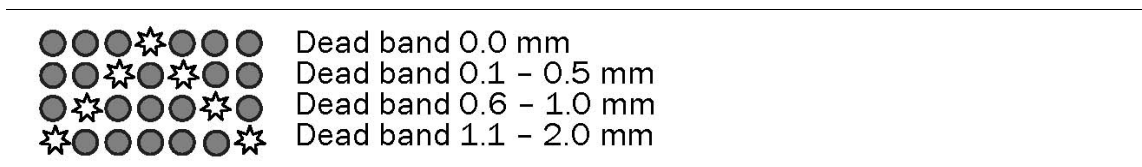

Fig 9: LED indication of Dead Band values
- With the keys and the desired band can be adjusted (see Fig. 9)